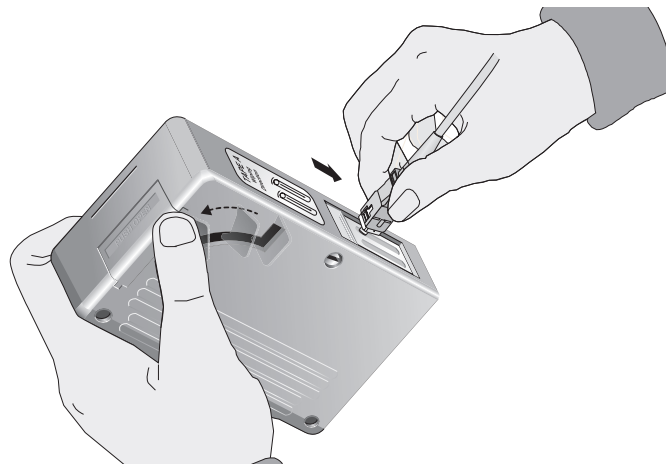

Figure 51. Rubbing the Ferrule Tip on the Cleaning Surface
5. With one hand, hold the cartridge cleaner and push the lever on the cleaning cartridge in the direction of the arrow to expose the cleaning surface, as shown in Figure 51.
6. Place the ferrule tip on the exposed cleaning surface and rub the ferrule in a downward direction, as shown in Figure 51.
1. Insert the swab into the adapter as shown in Figure 51 and rub the ferrule tip with the swab.